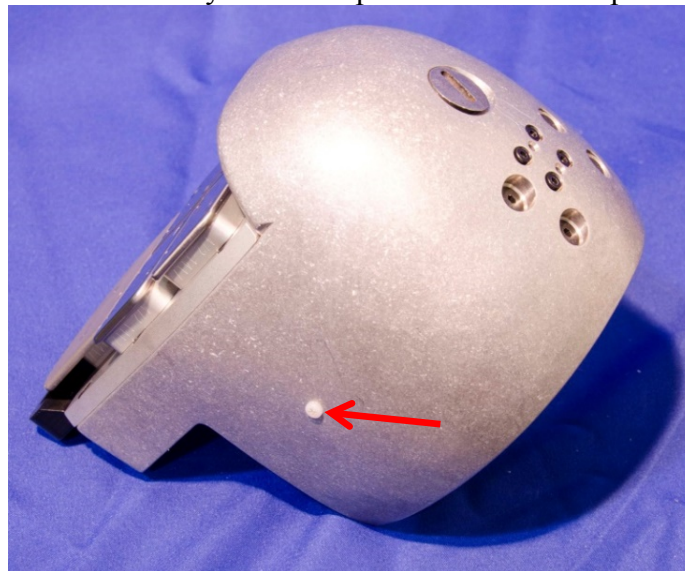
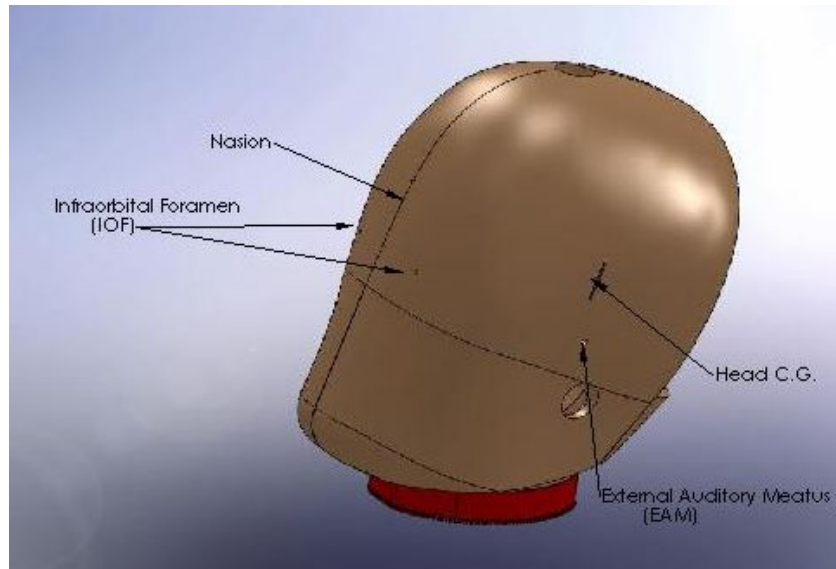

Figure 3-20. CG locators on skull
Figure 3-21. Landmarks on the head skin
3.2.2.15 An M3 x 0.5 x 6 Nylon Phillips Screw installed on both sides of the skull marks the location of the Head C.G. (Figure 3-20). The head skin has a number of landmarks marked on the skin (Figure 3-21). The C.G. location on the Molded Head Skin corresponds to the equivalent points on the skull marked with a hole. The EAM landmark is also indicated by a hole, while the Nasion and IOF are indicated by small dimples on the anterior part of the skin.